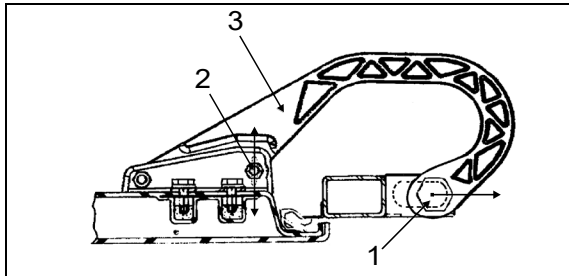

FIGURE 94: DOOR HINGE
2. Loosen nut (1, Figure 94).
3. Move part (3, Figure 94) as shown in figure for "LEFT or RIGHT" adjustment.
4. Tighten nut (1, Figure 94).
5. Loosen nut (2, Figure 94).